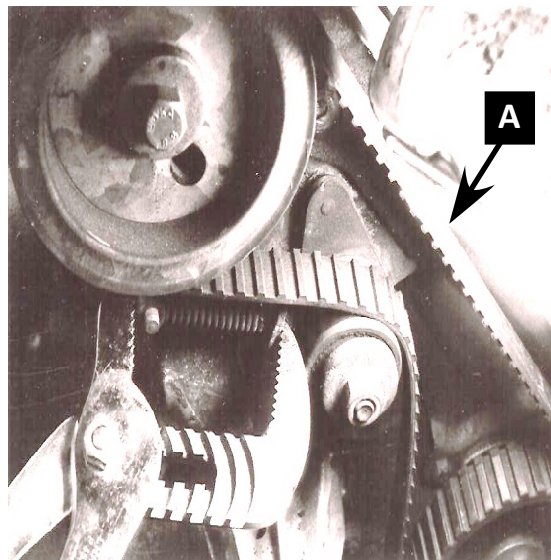

Figure 19. Squeeze the tensioning spring . . .
12. With the belt tensioner nut loose, to remove the old belt, pull or push on the belt at **A** (**Figure 19**), then insert a restraining pin (**Figure 20**) or nail to keep spring compressed. Slide old belt off. (Sometimes it helps to use a large waterpump pliers to squeeze the spring and insert a pin.)
14. Most important step! Slip the new belt on with the first single line mark of the new belt aligned on the camshaft notch of **Figure 10**. Use a spring clamp to hold the belt onto the overhead camshaft pulley (**Figure 21**). Slide the belt over the tensioner roller and under the crankshaft pulley boss. Make sure there is no play on the belt between the camshaft and crankshaft. Grab the new belt at A, **Figure 19**, and pull up on it to work it over the auxiliary shaft pulley. Make sure the second single line mark aligns to the dot on the auxiliary shaft pulley per **Figure 11**. Double check that the precise alignment of **Figure 17** still holds. If it doesn't, slip belt off at the auxiliary shaft pulley. This time, move the crankshaft pulley boss clockwise a notch or two (while adjusting belt) so that when you pull up on the timing belt to fit it over the auxiliary shaft pulley, the u-shaped notch of the crankshaft rear sprocket plate will move counterclockwise to align with the 4-mm-long ridge. Fuss with it until you get it right!